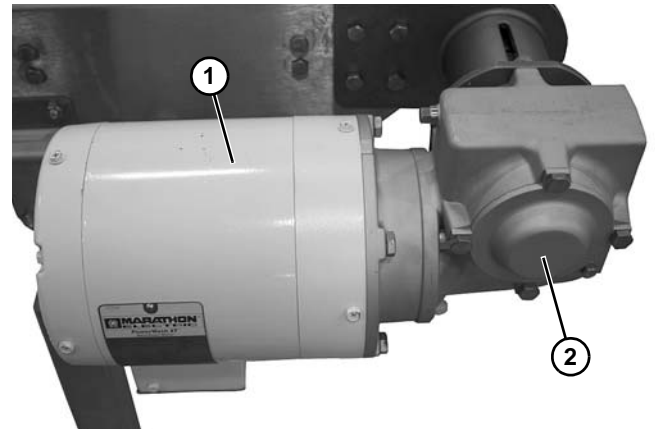

Figure 41
1. Attach the motor (**Figure 41, item 1**) to the gear reducer (**Figure 41, item 2**).